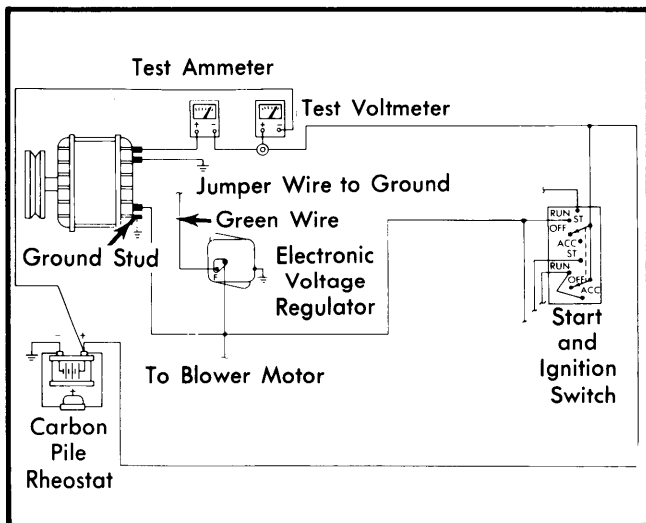

Fig. 1 Diagram Showing Meter Connections for Charging Circuit Resistance Test
1) Disconnect "BAT" lead at alternator and connect a 0-100 ampere scale D.C. ammeter in series between alternator "BAT" terminal and disconnected "BAT" lead. Connect positive lead of D.C. voltmeter to disconnected "BAT" lead and connect negative voltmeter lead to battery positive terminal. Disconnect Green regulator field lead from alternator. Connect a jumper lead from alternator field terminal to ground. Connect a tachometer and reattach battery ground cable. Connect a variable carbon pile (set in open or off position) to battery terminals. See Fig. 1.